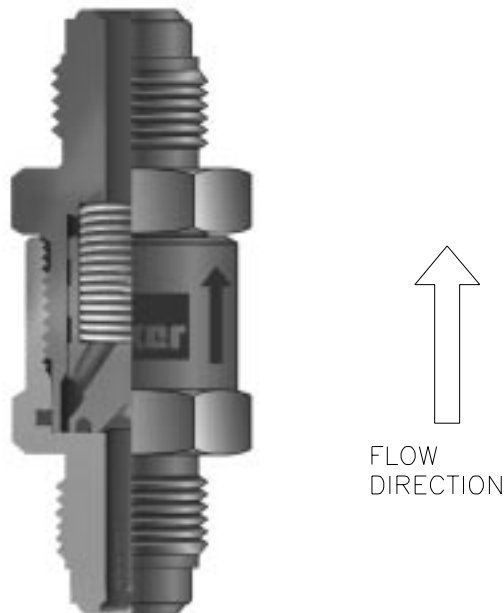

Figure 1: CO Series Check Valve Cross Sectional View
2. Refer to Figure 1. Insert O-Ring into the O-Ring groove of the Cap, exercising care not to damage the O-Ring and not to damage or scratch the Cap's interior.
4. While holding the Body upright, place the new Spring in the Body. Ensure the Spring is properly positioned in the pocket per Figure 1.